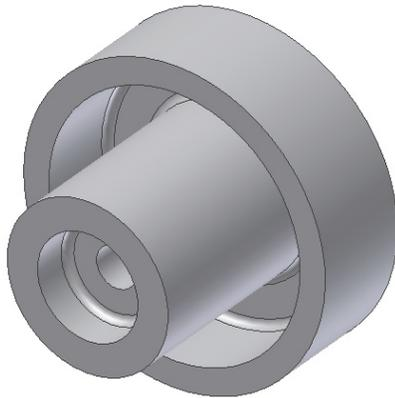
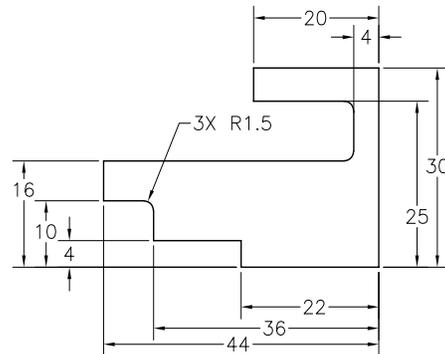

Figure 2-75 Revolved model for Tutorial 4
Figure 2-76 Sketch for the revolved model
In this tutorial, you will draw the basic sketch of the revolved solid model shown in Figure 2-75. The sketch for creating this model is shown in Figure 2-76. Do not dimension the sketch as the dimensions are given only for reference. Use the Dynamic Input to draw the feature.
2. Select line 8 and then line 9, refer to Figure 2-76; a fillet is created between these lines and the radius of the fillet is displayed in the sketch.